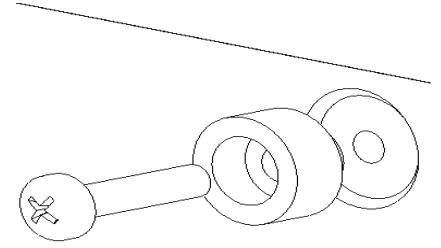

Figure 21. Remove Sony Mounting Buttons
1. Using a Phillips screwdriver, remove the four mounting buttons attached to the back of your Large Flat Panel display (see Figure 21).